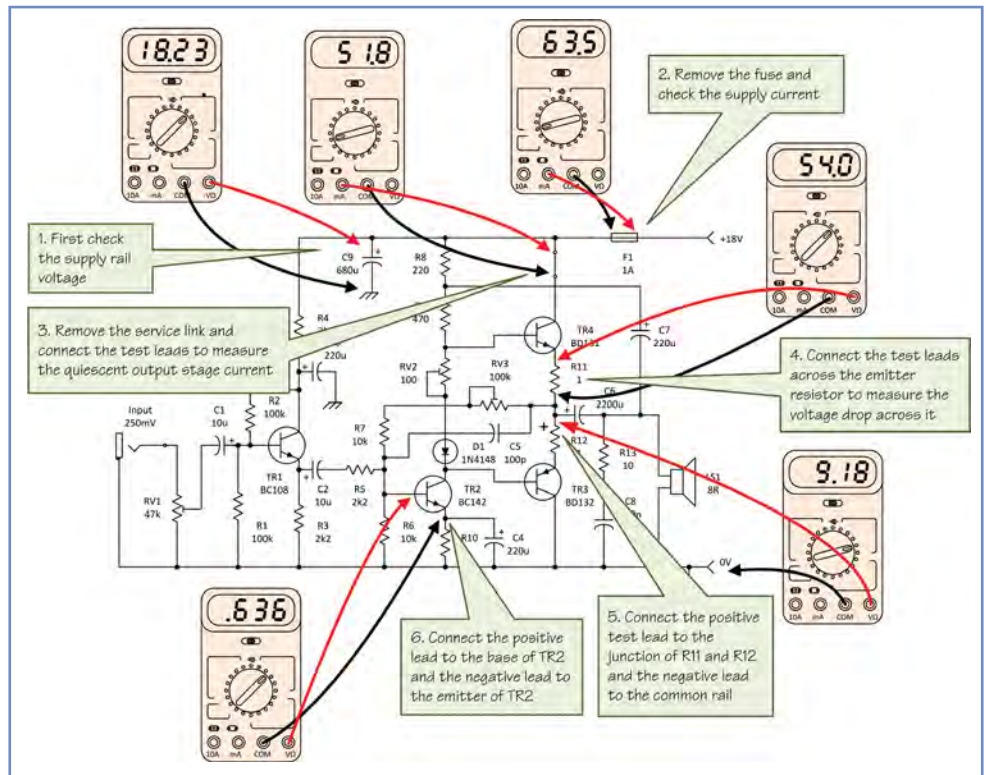

Fig.1.13. Checking the DC voltages and currents present in an audio power amplifier
To put this all into context, let's look at how a digital multimeter can be used to verify the operation of the audio amplifier shown in Fig.1.13. The circuit operates from an 18V DC supply (not shown in Fig.1.13) so the first step should be checking that the supply is functioning and that the supply voltage is at, or close to 18V.
Step 1 – First check the supply rail voltage. This can be done by setting the digital multimeter to the 20V DC range and connecting the positive (red) test lead to the +18V terminal and the negative (black) test lead to the 0V terminal. If more convenient, we could connect the positive test lead to the end of the supply fuse (F1) or simply connect the test meter across the large value electrolytic capacitor (C9) as shown in Fig.1.13. A supply voltage of 18.23V is measured and this is reasonably close to the expected value.